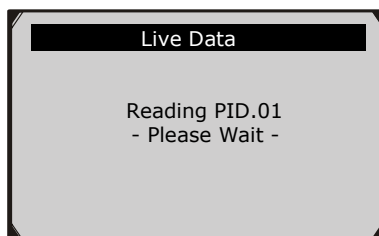

Figure 6.10
- 2) Wait a few seconds while the scan tool validates the PID MAP. (Figure 6.10)